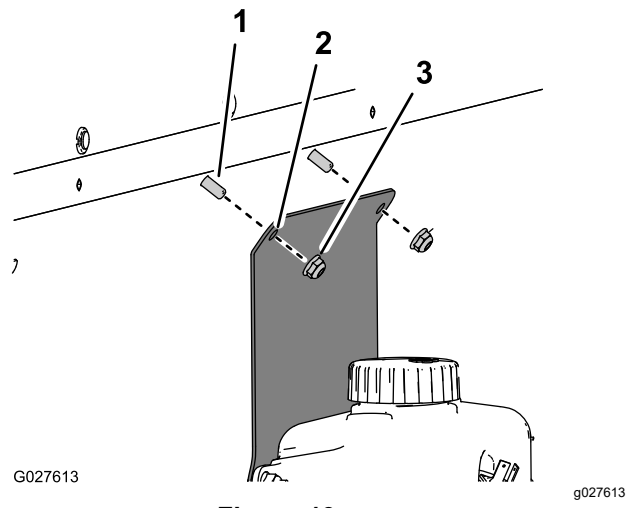

Figure 19
6. Assemble the washer bottle bracket mount and washer-fluid tank (Figure 19) onto the 2 carriage bolts (1/4 x 1-1/4 inches) with the 2 locknuts (1/4 inch).